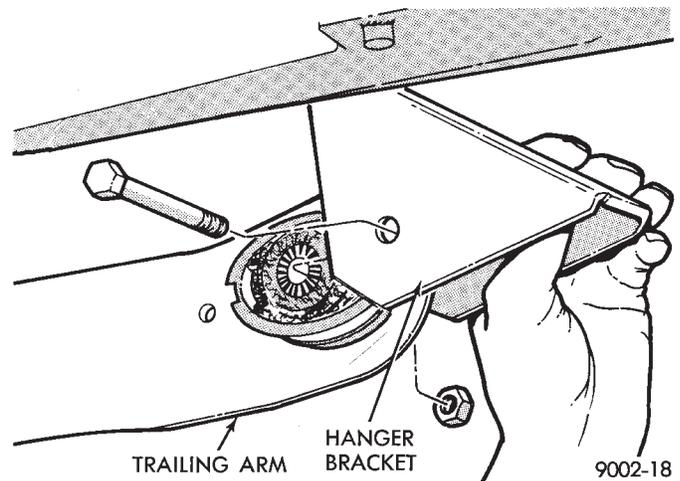

Fig. 3 Remove Hanger Bracket
- (4) Remove hanger bracket to frame rail bolts (Fig. 3).
- (5) Lower axle assembly down enough to remove pivot bolt and hanger bracket (Fig. 3). Right side trailing arm shown.